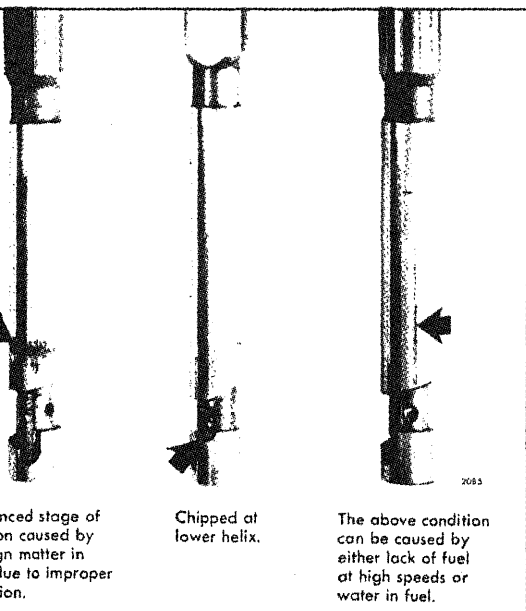

Fig. 12 - Unusable Injector Plungers
4. Inspect the plunger. If the plunger is chipped (Fig. 12), replace the plunger and bushing assembly.